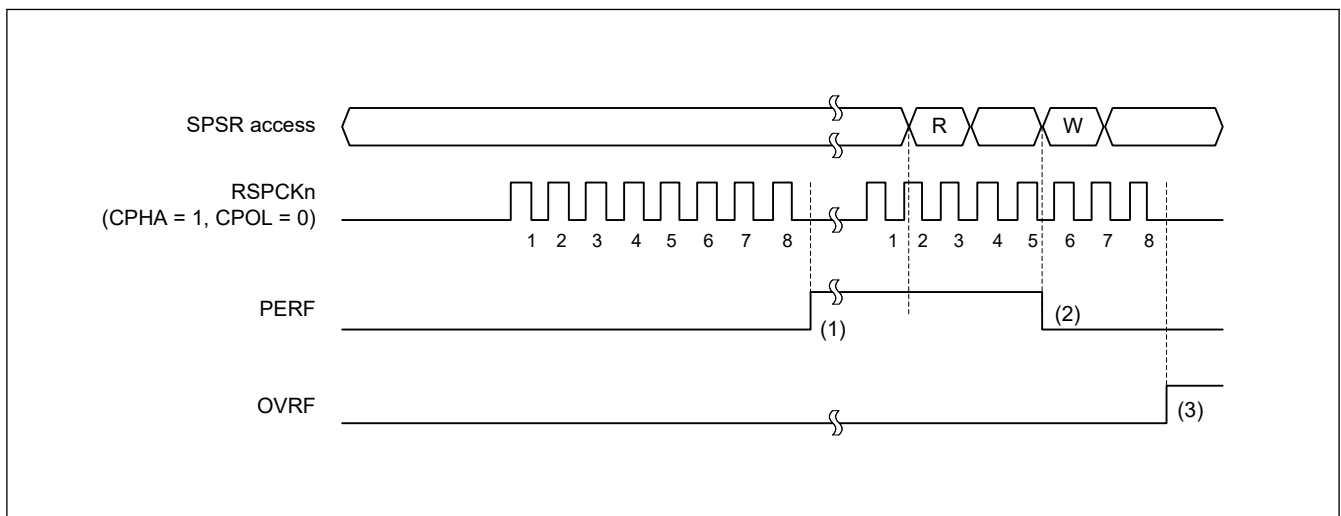

Figure 26.29 Operation example of the OVRF and PERF flags
Figure 26.29 shows an example of operation of the OVRF and PERF flags. The SPSR access shown in Figure 26.29 indicates the condition of access to the register, where W denotes a write cycle, and R a read cycle. In this example, full-duplex serial communication is performed while the SPCR2.SPPE bit is 1. The SPI performs an 8-bit serial transfer when SPCMD0.CPHA bit is 1 and the SPCMD0.CPOL bit is 0. The numbers given for RSPCKn in the waveform represent the number of RSPCK cycles, such as the number of transferred bits.
The operation of the flags at timings (1) to (3) in Figure 26.29 is as follows: